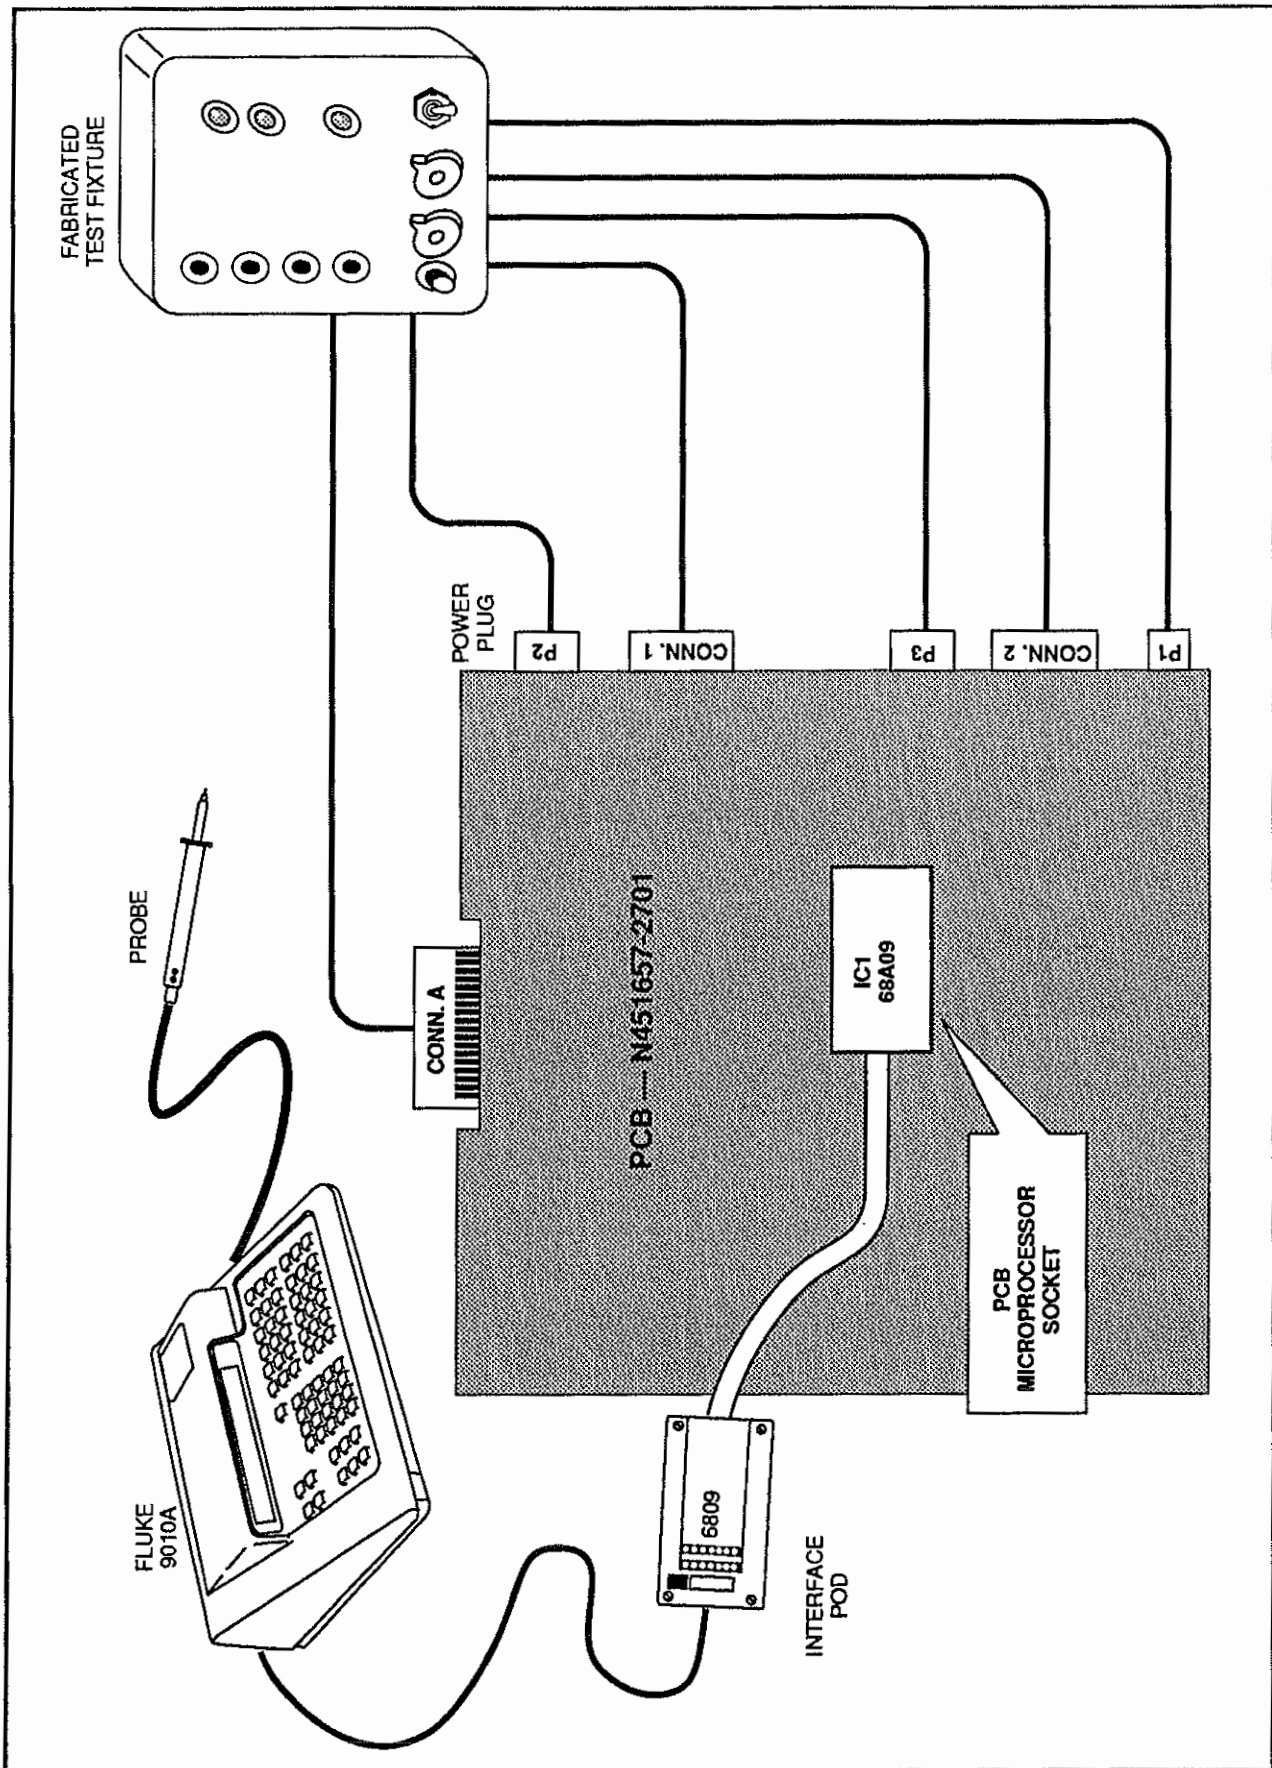

Figure 2-6. Test Setup for Testing CPU (N451657-2701)
(4) To summarize:
- f. Connect cables as shown in Figures 2-6 and 2-7.